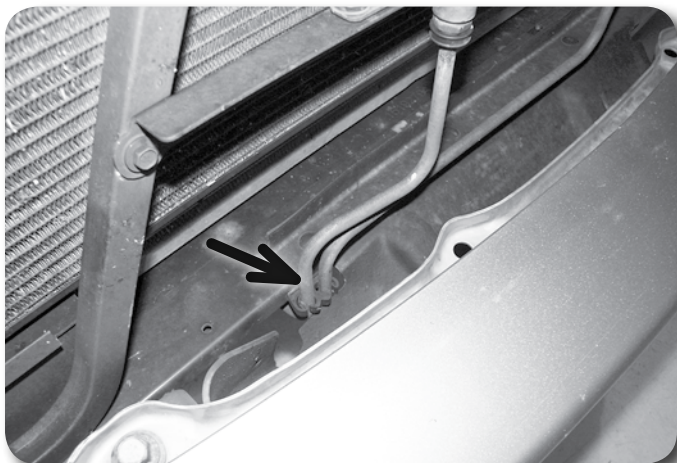

Figure 4
5. Remove the transmission cooler lines from the clips on the core support Figure 4.